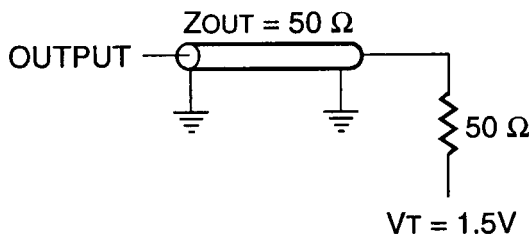

FIGURE 1
1. Test conditions assume signal transition times of 3ns or less, timing reference levels of 1.5V, input pulse levels of 0 to 3.0V and C1 output loading specified in Figure 1.
2. Tested with the C2 load in Figure 1. Transition is measured ±500 mV from steady-state voltage. Not 100% tested.
Output Load	See Figures 1 and 2
1. Test conditions assume signal transition times of 3ns or less, timing reference levels of 1.5V, input pulse levels of 0 to 3.0V and output loading specified in Figure 1.